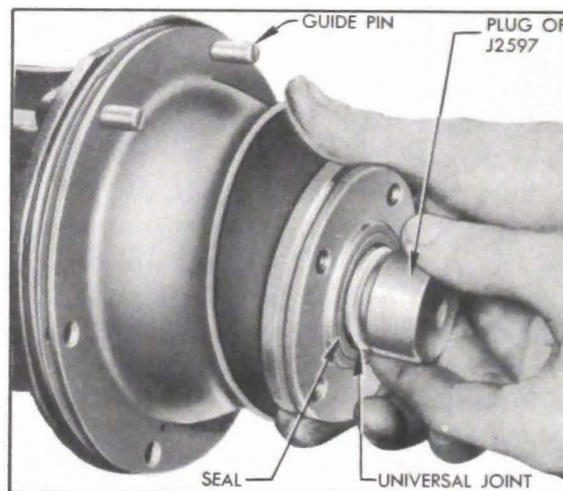

Figure 4-22—Installing Torque Ball and Retainer
5. Prepare two $\frac{3}{8}$ " headless guide pins $1\frac{3}{8}$ " long, having $\frac{3}{8}$ "-16 threads $\frac{1}{2}$ " long and screw-driver slots cut in opposite end. Install guide pins in upper bolt holes in rear bearing retainer flange. See figure 4-22.
9. Install torque ball and outer retainer with "TOP" sides up, using shims of sufficient thickness to fill the space between flanges of inner and outer retainers. Hold plug of installing tool firmly against end of universal joint until oil seal has moved forward upon the universal joint, then remove the plug. See figure 4-22.